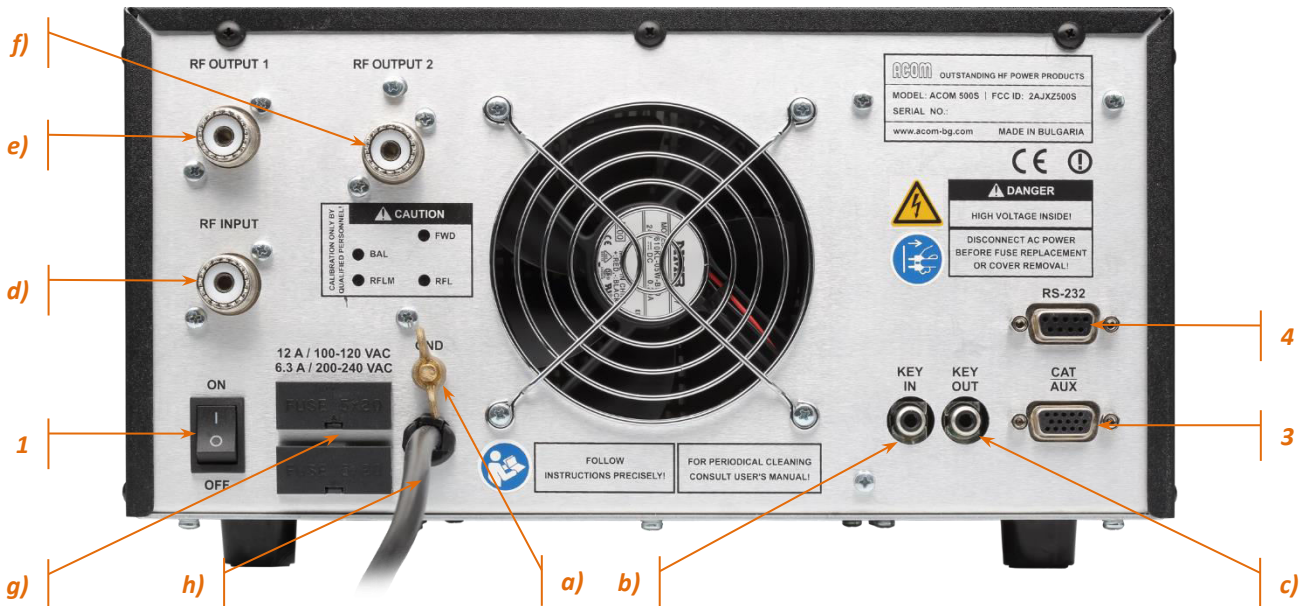

Figure 2-3 | Rear panel - Connections
The ACOM 500S linear amplifier is a Safety Class I unit regarding protection against electric shock. The third grounding lead of its mains cord (which is colored yellow with two green stripes) and the ground stud on the rear panel of the amplifier (marked **GND**, see Figure 2-3 | Rear panel - Connections, Pos. (a)) must be connected to the station's grounding system for safe operation.
Please, see Figure 2-3 | Rear panel - Connections.
First, connect the wing-nut grounding stud of the amplifier (on the rear panel, marked **GND**) to the station's grounding system (see Figure 2-3 | Rear panel - Connections, Pos. (a)).
Run a shielded cable from the "ground on transmit" connector or terminal on your transceiver to the amplifier rear panel **KEY IN** connector (see Figure 2-3 | Rear panel - Connections, Pos. (b)). The **KEY IN** connector uses a standard RCA phono plug.
If your transceiver has a suitable input that disables transmission unless grounded externally, we recommend that you connect it with a shielded cable terminated in a Phono (RCA) connector to the **KEY OUT** connector (see Figure 2-3 | Rear panel - Connections, Pos. (c)) of the amplifier.
Connect a suitable coaxial cable from the transceiver output to the amplifier **RF INPUT** SO-239 connector (see Figure 2-3 | Rear panel - Connections, Pos. (d)), using PL-259 plug.
Connect a suitable coaxial cable with a PL-259 plug from the **RF OUTPUT 1** (see Figure 2-3 | Rear panel - Connections, Pos. (e)) to the ACOM 04AT or 06AT Automatic Antenna Tuner with Switch for operation on the lower amateur bands 1.8 to 54 MHz (160 to 6 meters).
Connect a suitable coaxial cable with a PL-259 plug from the **RF OUTPUT 2** (see *Figure 2-3 | Rear panel - Connections*, Pos. (f)) to the antenna for the respective frequency band, or to NON-ACOM antenna tuner.
Please, see *Figure 2-3 | Rear panel - Connections*, Pos. (g).
Please, see *Figure 2-3 | Rear panel - Connections*, Pos. (h).
Make sure the Main Power Switch (marked **ON/OFF**, see **Figure 2-3 | Rear panel - Connections**, Pos. (1)), on the rear panel is in **OFF** position and insert amplifier's mains plug into the wall outlet prepared for it. The amplifier remains switched off.
Please, see **Figure 2-3 | Rear panel - Connections**, Pos. (3).
Please, see Figure 2-3 | Rear panel - Connections, Pos. (4).